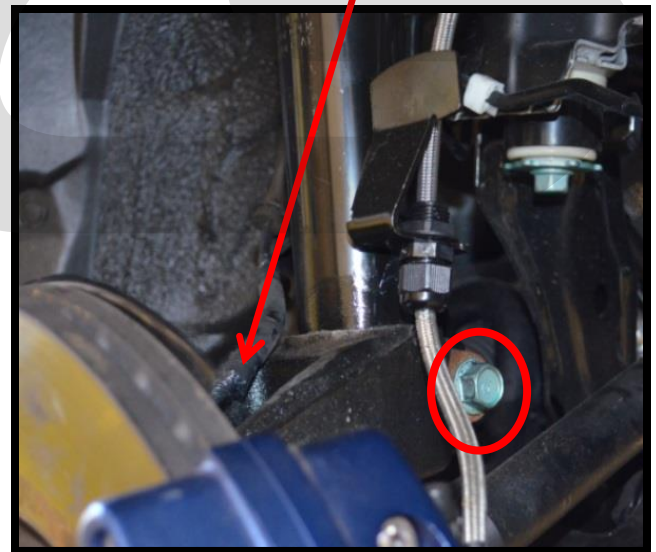

Figure 2d
- e) Remove the one (1) 17mm lower strut pinch bolt using a 17mm socket and ratcheting wrench (shown in Figure 2d by the red circle).
- e) **With the strut fully seated in the knuckle** reinstall the 17mm bolt and tighten to 45ft.lbs. (See Figure 2d)
- g) **Plug the ABS sensor back in at the knuckle.** (See Figure 2d)